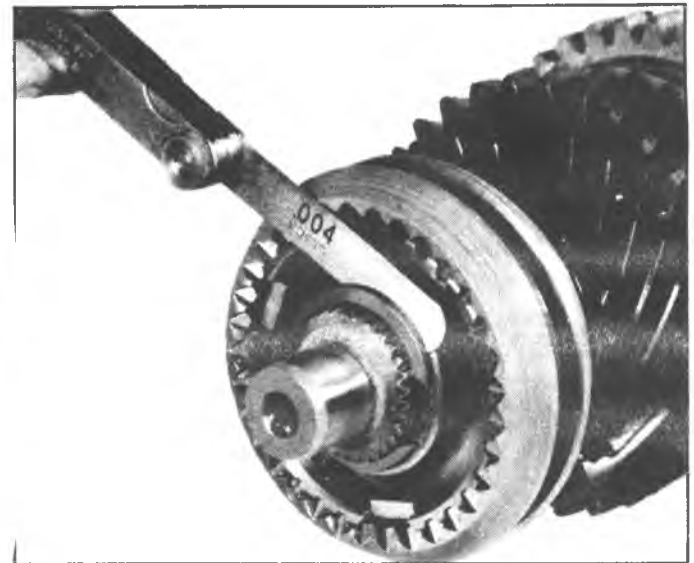

Fig. 7B-20B—Measuring Output Shaft End Play
6. Place second gear blocking ring on tapered surface of gear and install second gear on output shaft with tapered surface of gear facing front of output shaft (Fig. 7B-19B).